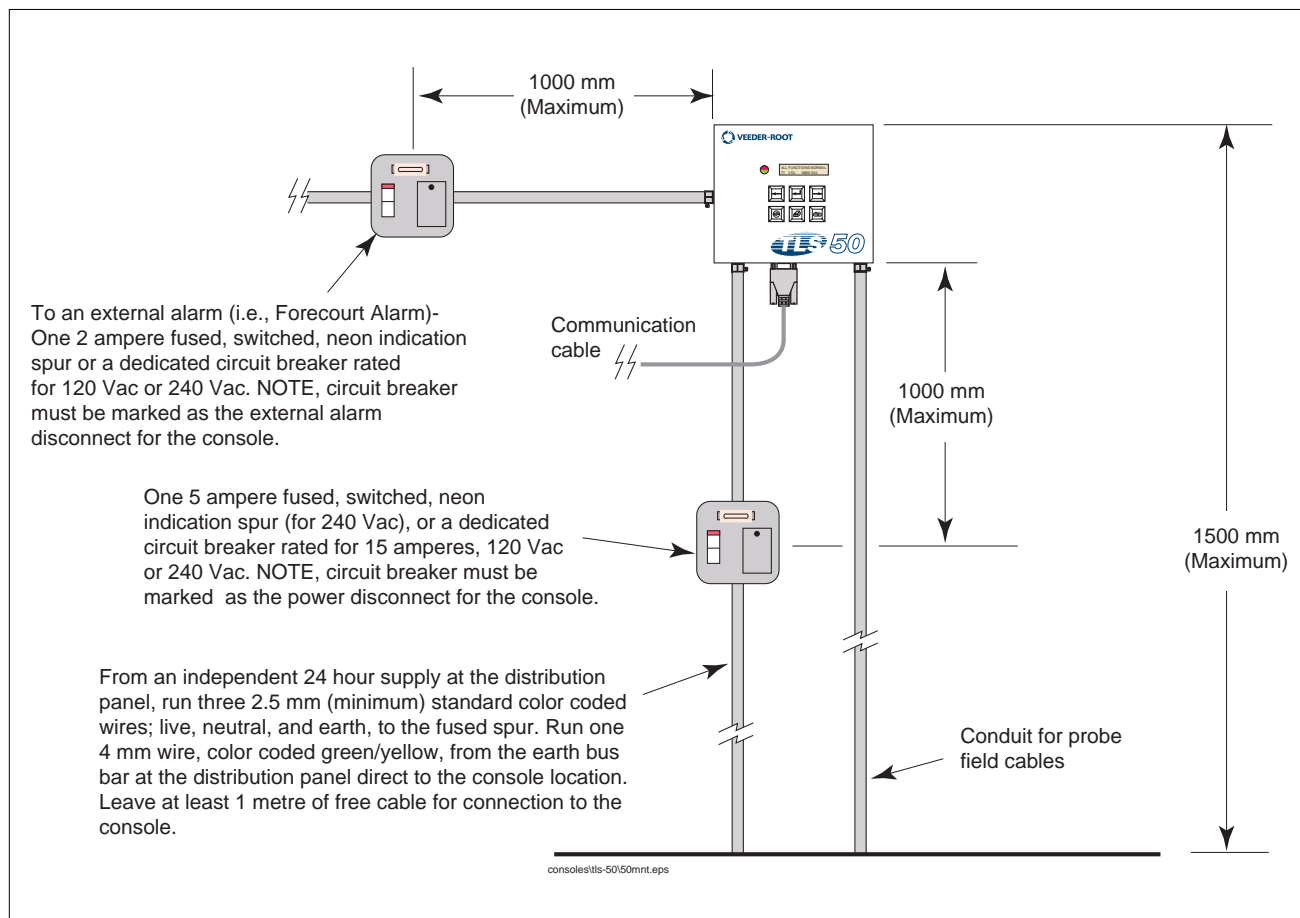
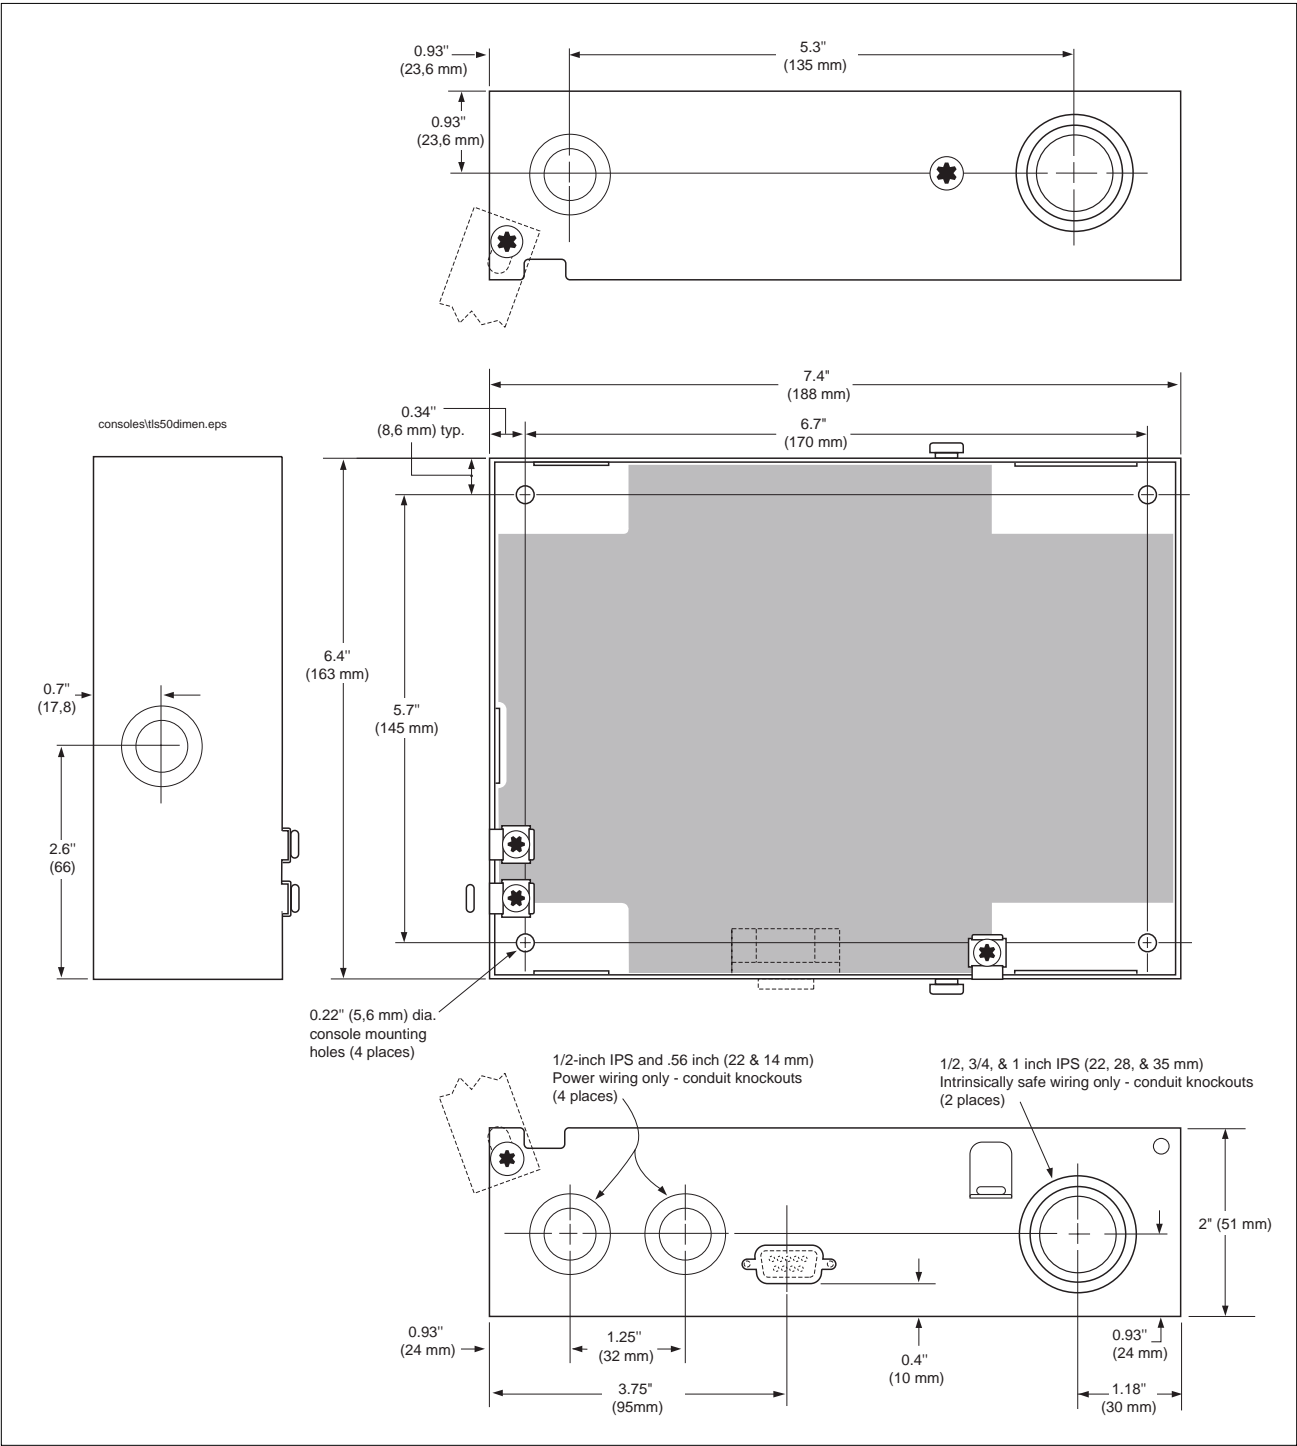

Figure 3. Recommended Mounting of Console
Figure 4. Console Dimensions and Designated Conduit Knockouts
Figure 3 illustrates recommended console mounting. Install the console fastening devices to the mounting surface using the hole pattern (6.7" x 5.7") shown in Figure 4. Mounting screws up to 3/16" diameter may be used.
Install metal conduit (1/2" I.P.S.) between the console and the power panel. Figure 4 shows the three designated knockouts (one each on top, left side, and bottom) through which power wiring can safely enter the console.
2. Attach conduit from the power panel to the console's Power Area knockouts only (1 on top and bottom, ref. Figure 4).
<p>Probes operate in areas where flammable liquids and explosive vapors may be present. Improper installation may result in fire or explosion causing serious injury or death.</p> <p>Practice the following:</p> <ol style="list-style-type: none"> <li>1. Read thoroughly and follow the instructions shipped with each probe.</li> <li>2. Probe wiring conduit must not contain any other wires.</li> <li>3. Probe wiring and conduits must enter the console only through their designated areas (see Figure 4).</li> <li>4. Power and communication wires and conduit must not enter the intrinsically safe compartment of the console. (see Figure 4).</li> </ol>